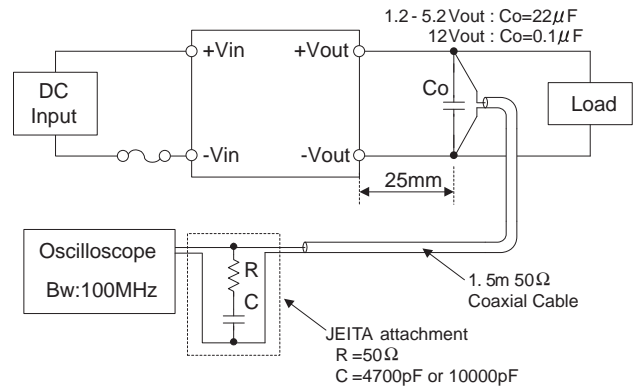

Fig.3.5 Measuring method of ripple and ripple noise
■Ripple and ripple noise are measured, as shown in the Fig.3.5, by connecting Co and JEITA attachment.